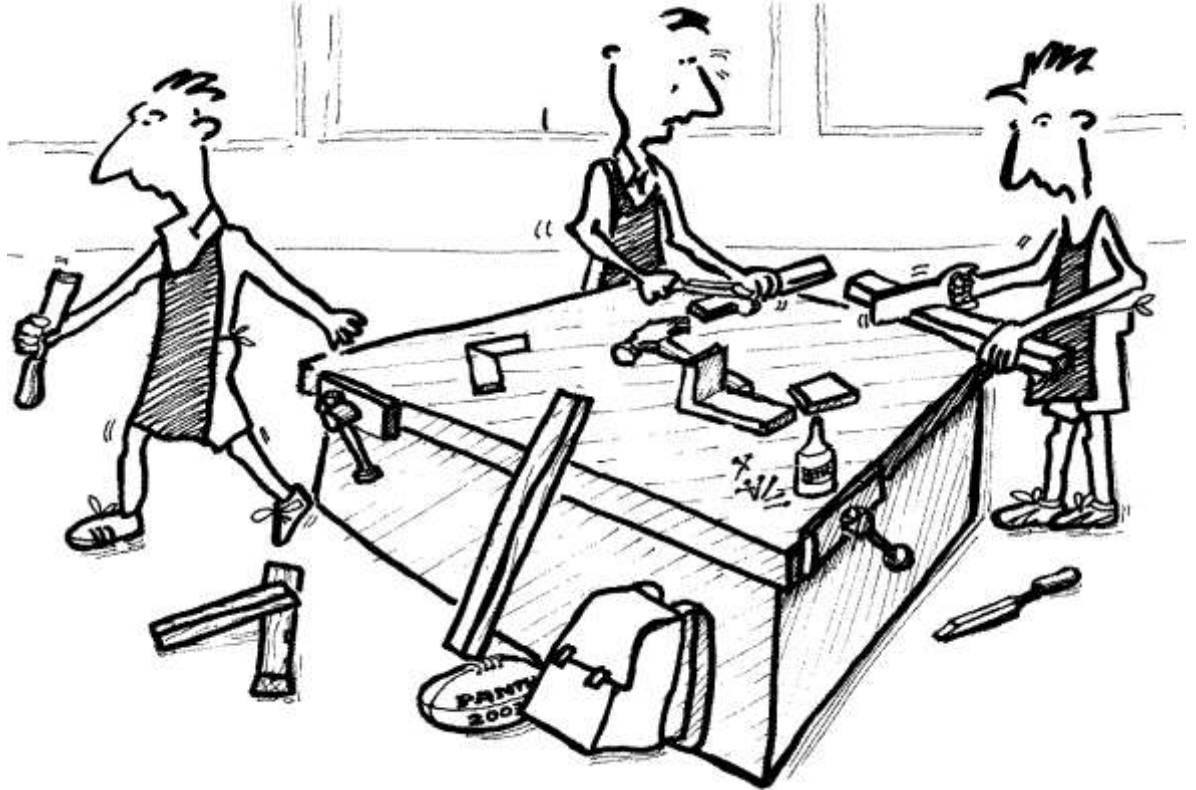

Figure 1. Hazardous workspace
1. Figure 1 Shows clearly a hazardous workspace.
1.4. In small groups, look at all the potential hazards in Figure 1 and rank them in order of the least dangerous to most dangerous. Your group needs to indicate why they chose this particular order.